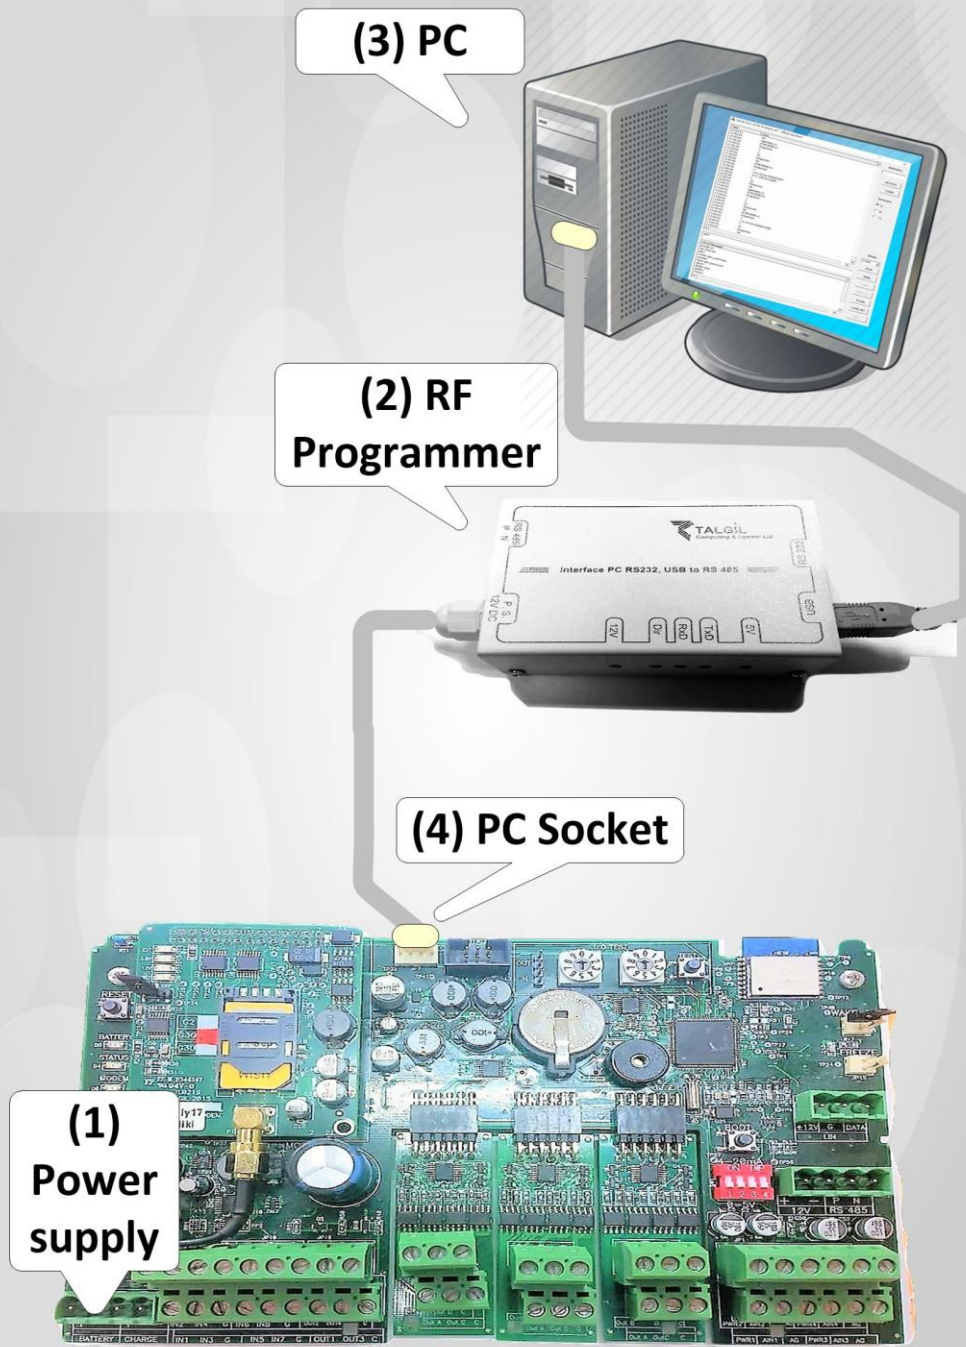

Figure 2- Preparation for programming settings
1. Disconnect the power supply plug (Pointer 1 figure 2) from the **Sapir 2** controller.
2. Connect the **RF programmer** (2) device to the **PC** (3) and to the **PC Socket** (4) on the **Sapir 2** controller as described in figure 2.